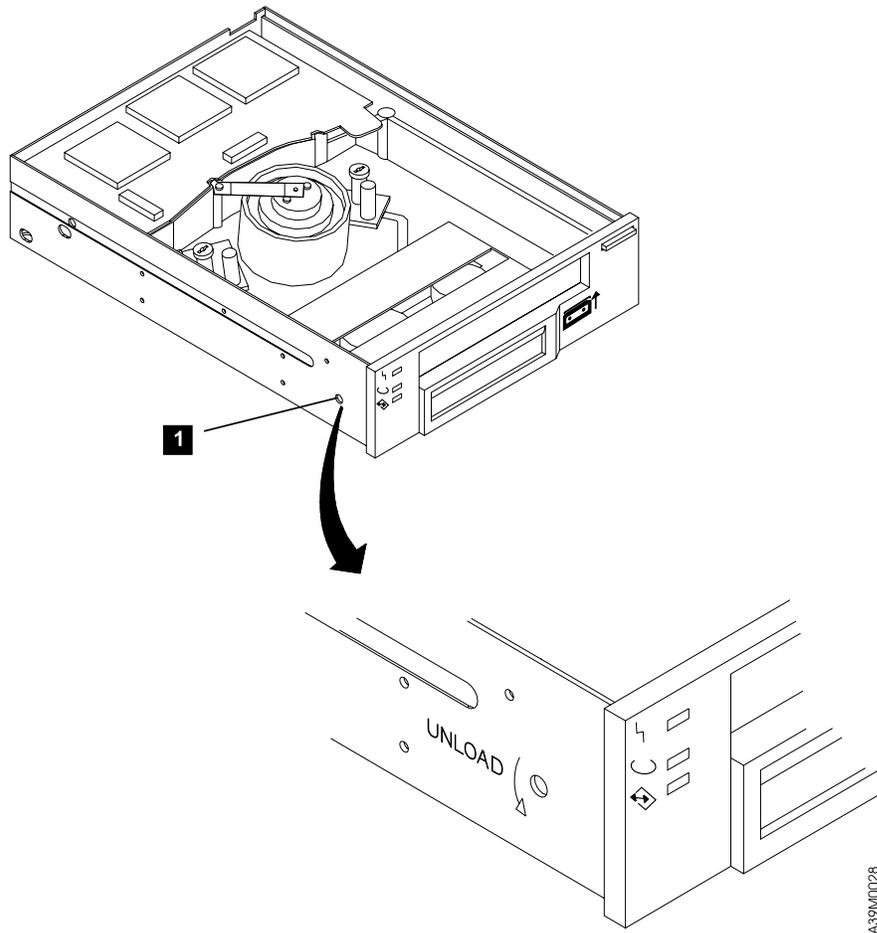

Figure 18. Unloading the Tape Cartridge
- a. At the left front of the drive, insert a 2.5-mm L-Hex wrench into the hole marked UNLOAD ( **1** in Figure 18).